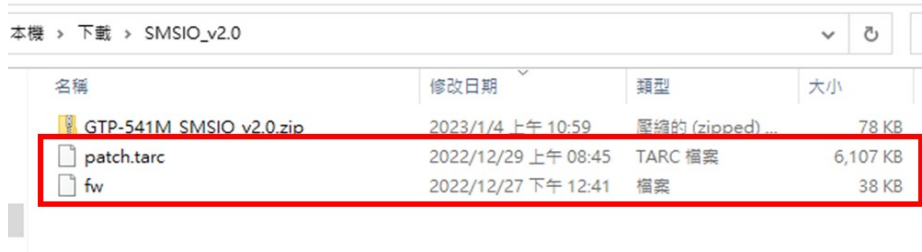

Figure 11.2.1
1. After downloading the update file, unzip it to get the firmware and patches, as shown in Figure 11.2.1.